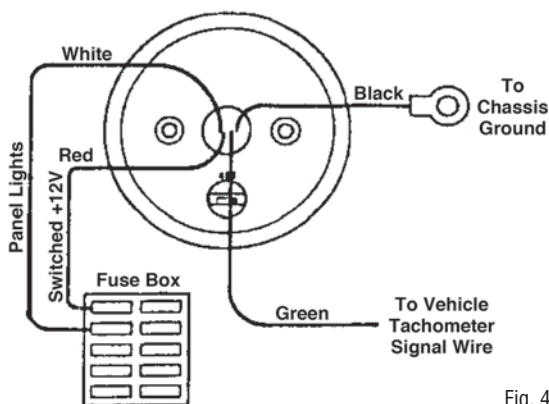

Fig. 4
- b. Install and crimp or solder ring terminal (#11) on tachometer ground (BLACK) wire. (Fig. 4)